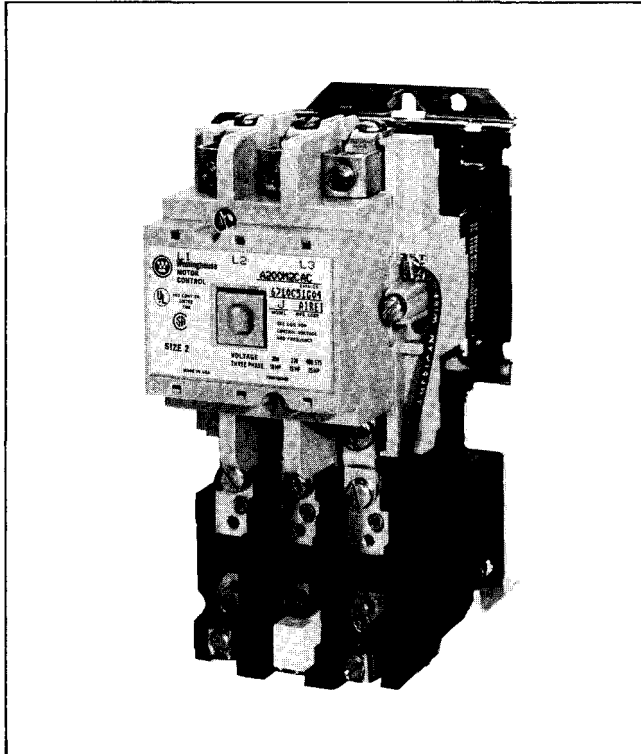

Fig. 1 Size 2 A200 Motor Controller
**TYPE B OVERLOAD RELAY (See Figure 1)**